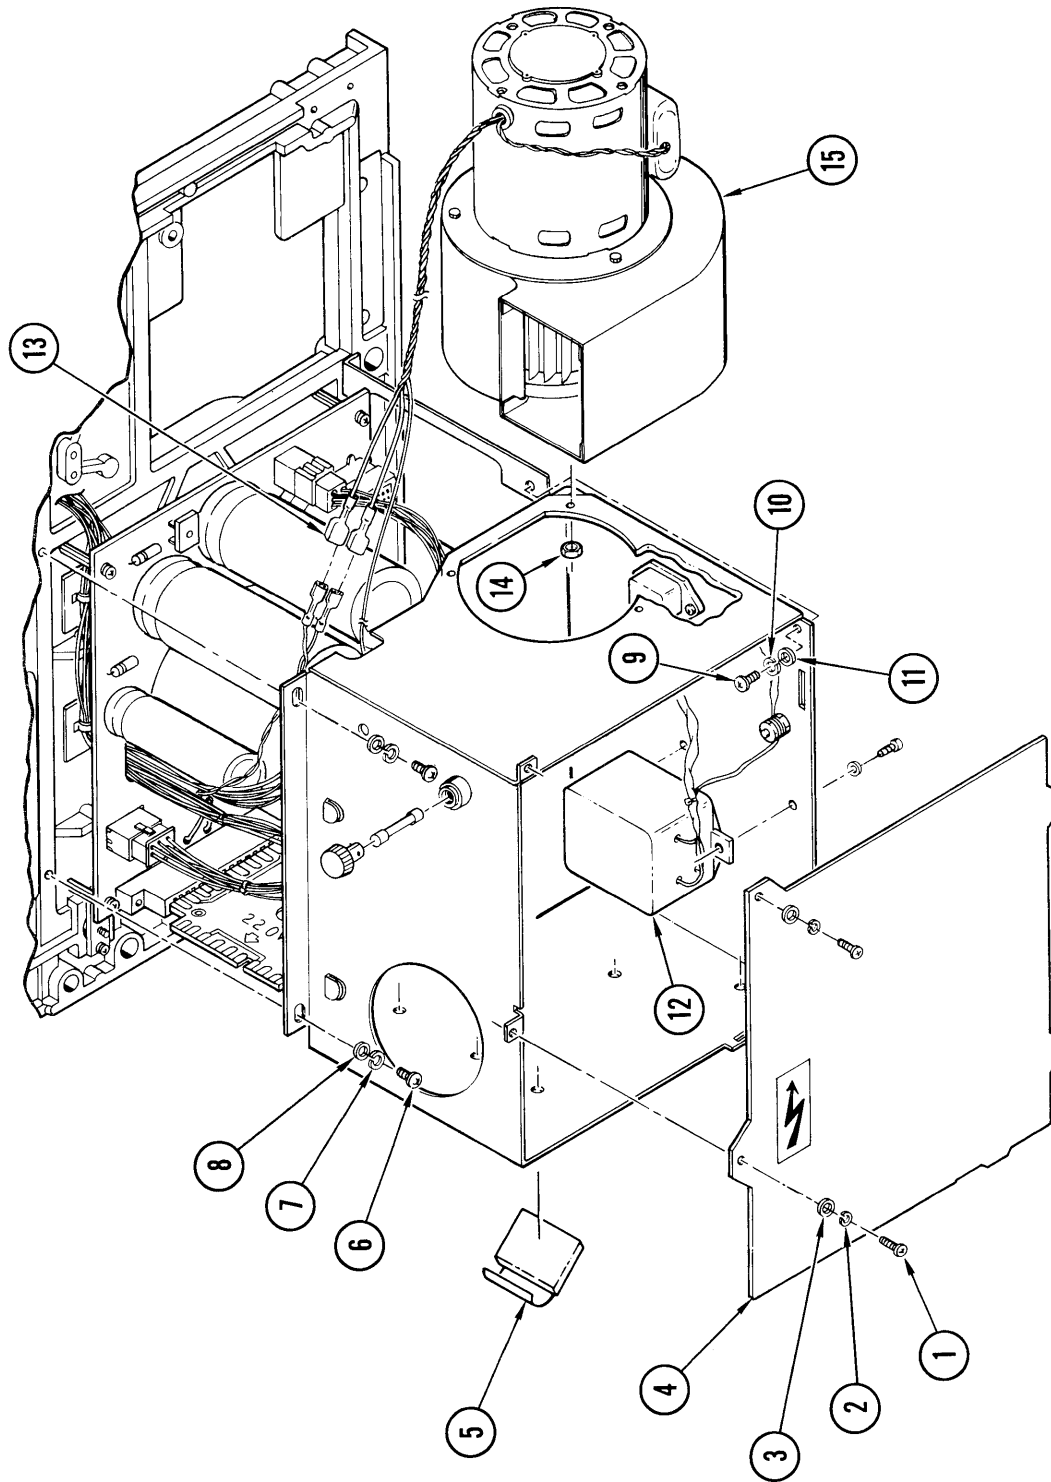

Figure 4-24. Power Supply Assembly
4-38. **Removal and Replacement (Figure 4-24).** Place the drive in service access position (paragraph 4-3) and proceed as follows:
- c. Remove screws (1, Figure 4-24), lockwashers (2), and flatwashers (3) securing power supply cover (4).
- d. Remove wiring harness from clip cord (5) securing wiring harness to outside of power supply chassis, and disconnect wiring harness connector from power supply PWB.
- e. Remove screws (6), lockwashers (7), and flatwashers (8) securing power supply chassis to top plate.
- f. Remove screws (9), lockwashers (10), and flatwashers (11) securing chassis to rear bracket.
- g. Disconnect air pump wires (13) and terminals from EMI filter (12) noting position from which removed.
- h. If air pump assembly (15) is to be replaced, remove nuts (14), securing air pump to chassis.